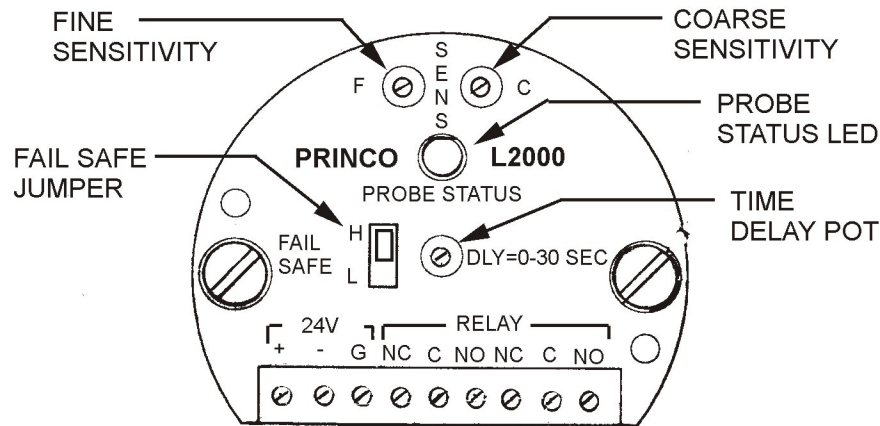
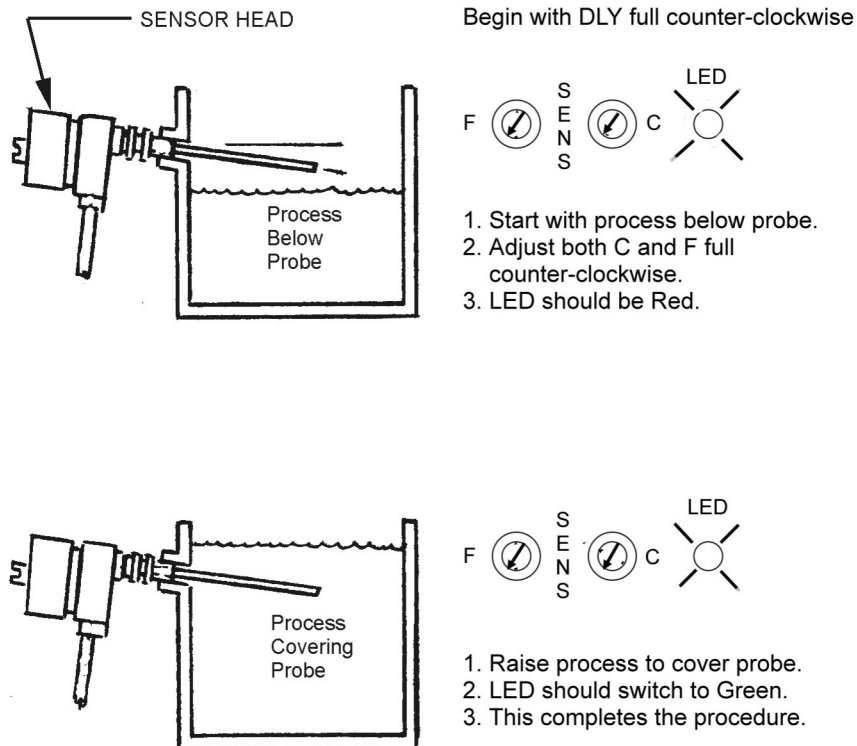

Figure 4-1
Figure 4-2
1. Refer to Figure 4-1 for L2000 adjustment and indicator locations.
- Refer to Figure 4-1 for adjustment and indicator locations. Refer to Figure 4-2 for a pictorial outline of this procedure.
- With process material NOT contacting the probe, adjust both the Coarse (C) and Fine (F) Sensitivity (SENS) pots fully counter-clockwise. The Probe Status LED should be Red.
- a) Refer to Figure 4-1 for adjustment and indicator locations. Refer to Figure 4-3 for a pictorial outline of this procedure.
- d) Preset the Fine (F) Sensitivity (SENS) pot full clockwise and the Coarse ( C ) pot to its mid-point position (12 o'clock).
- g) With process material NOT contacting the probe, adjust the Coarse (C) sensitivity such that the Probe Status LED "just turns" Green and stays. Don't touch the Coarse (C) sensitivity pot again.
This action is controlled by a small plastic jumper selector switch (FAIL SAFE) located on the top of the unit (see Figure 4-1). The L circuit pad designates Low Acting Alarm. The H circuit pad designates High Acting Alarm. The center pad is the common, and always connects to one position of the jumper selector.
A single turn Time Delay (DLY) pot is provided on the L2000 (see Figure 4-1). Most applications require no time delay. Therefore, adjust the Time Delay pot to the maximum counterclockwise direction (zero time delay).